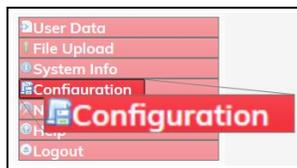

Figure 150: Configuration link
4. On the **Menu** list, click the **Configuration** link. Figure 150